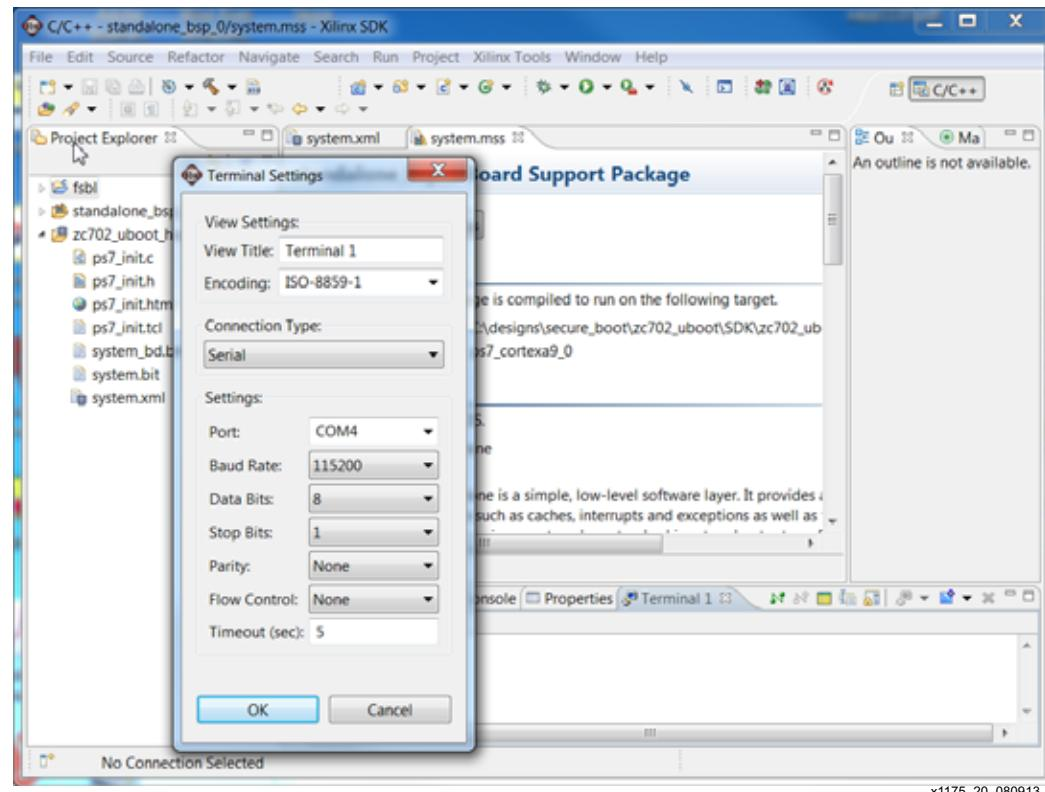

Figure 21: SDK Communication Terminal
3. Invoke SDK by running **xsdk &** at the Linux prompt or **Xilinx Design Tools > ISE Design Suite 14.6 > EDK > Xilinx Software Development Kit** from the Program Start Menu. Set the workspace at **zc702_uboot/SDK**. Click the **Terminal** tab to setup a terminal window. **Figure 21** shows how to set up the SDK communication terminal to use a 115200 baud rate. Alternatively, minicom, TeraTerm or Hyperterminal can be used as the communication terminal.